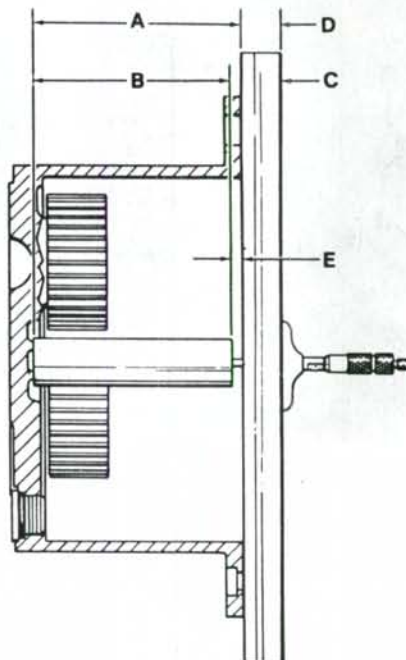
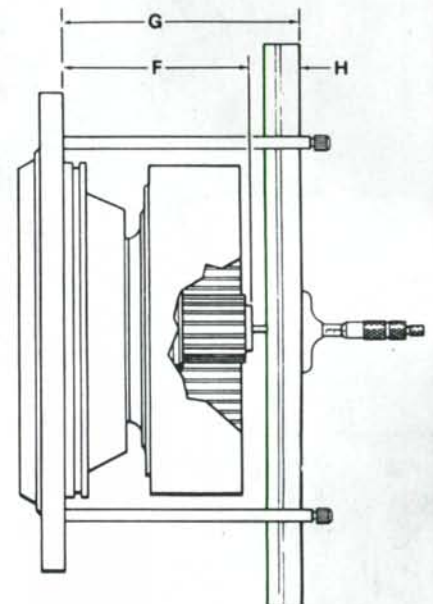

Fig. 21—View of special tools used to determine dimension (A) from mounting flange of planetary carrier to seat of thrust washer. Refer to text for procedures.
Fig. 22—View of special tools used to determine dimension (F) from flange of hub to end of sun gear shaft. Refer to text for procedures.
To adjust end play of axle shaft and sun gear, make certain thrust washer (15) is removed from carrier (10). To determine dimension (A—Fig. 21) which is the distance from thrust washer seat to mounting flange of planetary carrier, install special tool CAS-1764 on thrust washer seat. The length of this tool
(dimension B) is stamped in mm on tool. Place special tool CAS-1765 across mounting flange of planetary carrier. Using a depth gage through hole in tool CAS-1765, measure distance (C) to end of tool CAS-1764. Measure diameter of tool CAS-1765 (dimension D). Subtract dimension (D) from dimension (C) to obtain dimension (E). Add dimension (E) to dimension (B) to obtain dimension (A). Record this dimension. To determine dimension (F—Fig. 22) which is the distance from the end of the sun gear shaft to the face of the mounting flange of the planetary hub, push sun gear inward as far as possible. Assemble special tool legs CAS-1763 to tool CAS-1765 and hold against mounting flange of planetary hub. The length of this special tool assembly dimension (G) is stamped in mm on the legs. Using a depth gage through hole in tool CAS-1765, measure distance (H) to end of sun gear. Subtract dimension (H) from dimension (G) to obtain dimension (F). Then, subtract dimension (F) from dimension (A—Fig. 21) to obtain the total distance axle shaft and sun gear is free to travel. Correct end play of axle shaft and sun gear is 0.012-0.024 inch (0.3-0.6 mm). Subtract correct end play from the predetermined distance axle shaft and sun gear is free to travel to determine correct thickness of thrust washer (15—Fig. 19) to be installed. Thrust washers are available in thicknesses of 0.059, 0.067, 0.079, 0.087, 0.098 and 0.118 inch (1.5, 1.7, 2.0, 2.2, 2.5 and 3.0 mm).